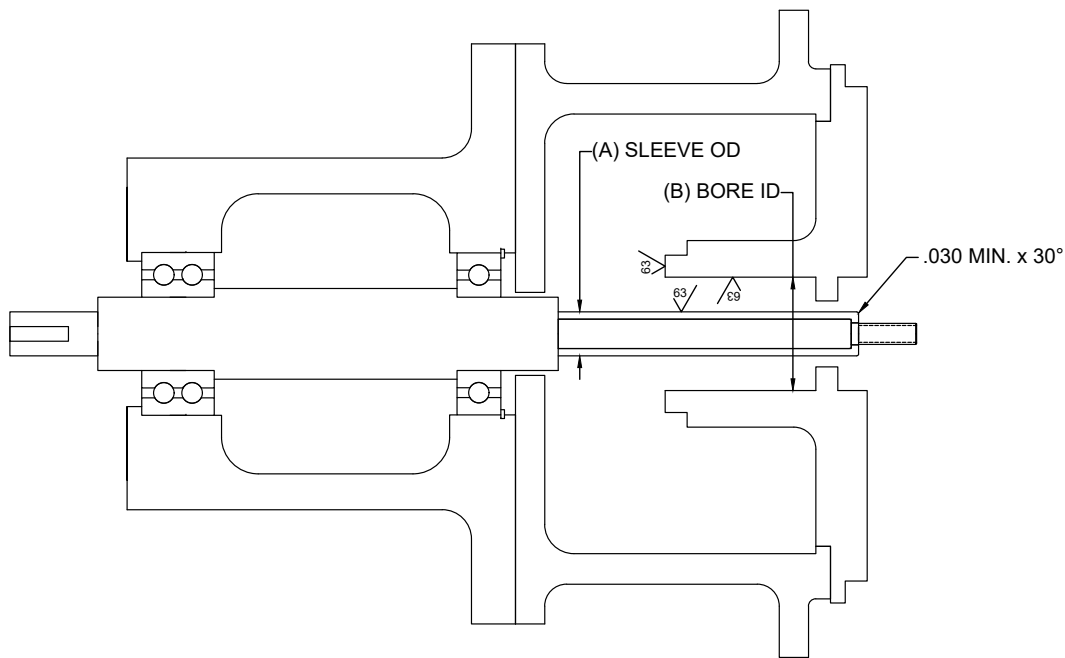

Figure 1: Surface finish and chamfer locations. Fully assembled pump without seal.
5. Sealing surfaces and the shaft or shaft sleeve must have at least a 63 Ra- μ m surface finish as seen in Figure 1.
6. For ease of installation, the leading edge of the shaft or sleeve should be chamfered as shown in Figure 1 and all parts should be deburred.